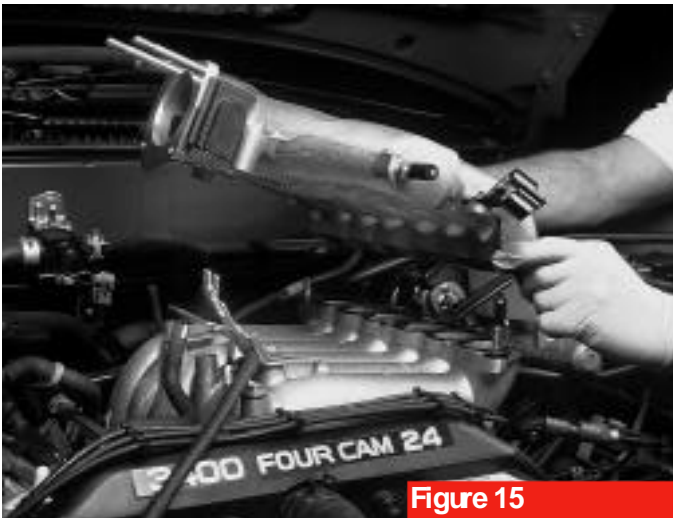

Figure 15
20. Remove the nuts and bolts from the upper half of the intake manifold and set it aside (figure 15).
*Note: The gasket between the surge tank and the manifold (figure 15) is interchangeable for use as the supercharger's intake manifold gasket (see section B-2).*